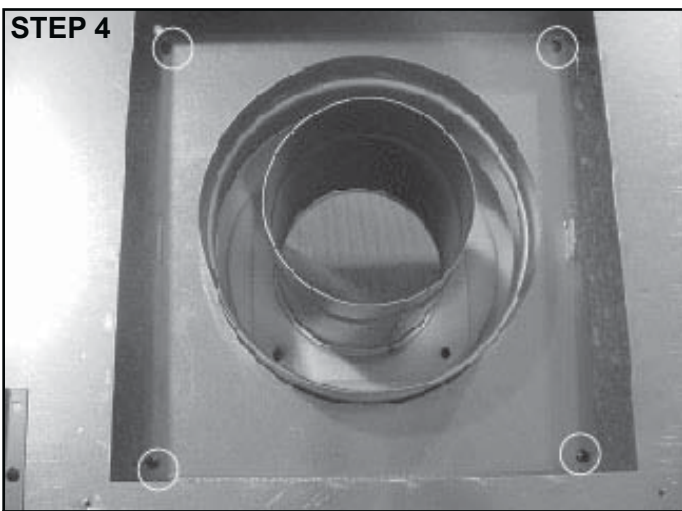

Figure 9.7 Inner Plate, Top of Appliance
- Remove four screws holding inner plate surrounding the flue. See Figure 9.7. Remove inner plate and discard.